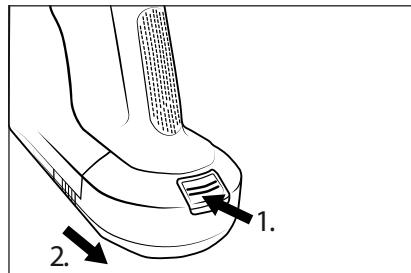

Fig. 13
- ◆ To remove the battery 2 from the appliance, press and hold the battery release button 1 and pull the battery 2 out of the appliance (see Fig. 13).